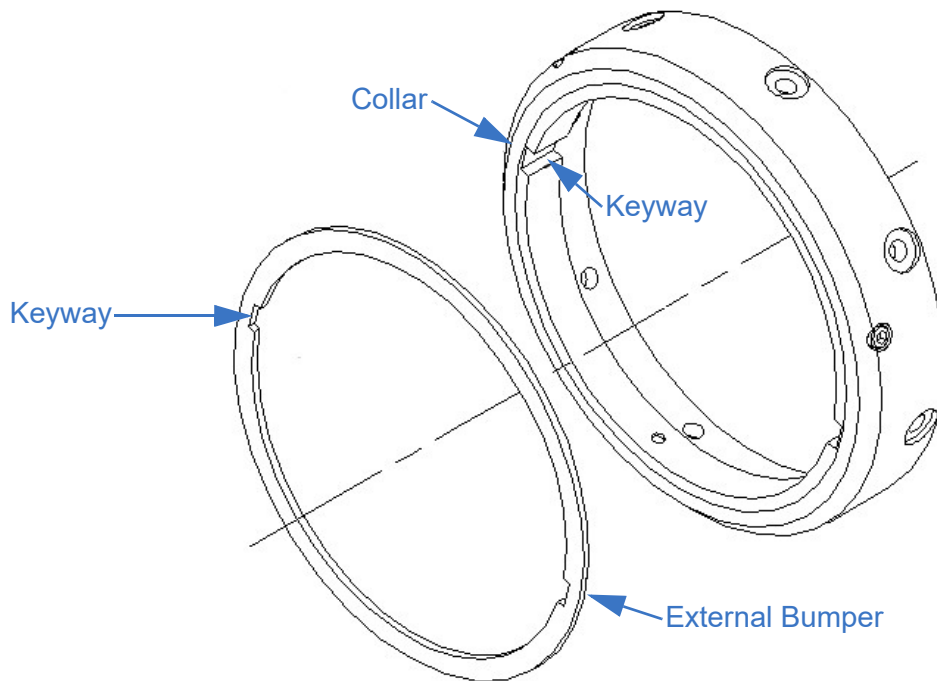

Figure 8-17 Replacing External Bumpers
5. Using a razor knife, notch out keyways in the external bumper to match those in the collar (Figure 8-17).